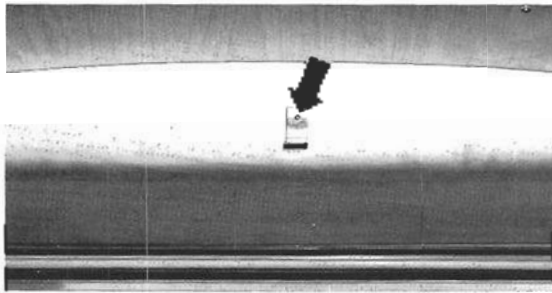

Fig. 7-25. Securing bracket (arrow) Phillips head screws in roof panel are just above the bracket.
- 3 Remove the three Phillips head screws that are near the rear edge of the trim panel. Also remove the securing bracket below the screws (Fig. 7-25).